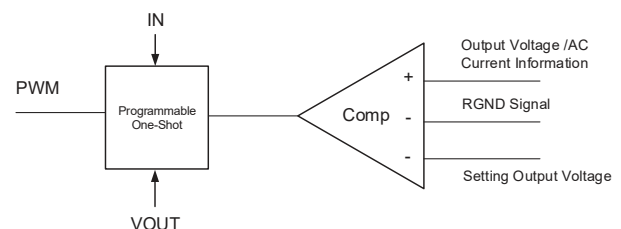

Figure 2. Simplified Control Schematic of AOZ23645RQ1
The simplified control schematic is shown in Figure 2. The high-side switch on-time is determined solely by a one-shot whose pulse width is inversely proportional to input voltage (IN). The one-shot is triggered when the internal setting output voltage is higher than the combined information of output voltage and the AC current information of inductor and load line signal, which is processed and obtained through the sensed low-side MOSFET current once it turns on. The added AC current information can help the stability of constant-on time control even with pure ceramic output capacitors, which have very low ESR. The AC current information has no DC offset, which does not cause offset with output load change, which is fundamentally different from other V^2 constant-on time control schemes.